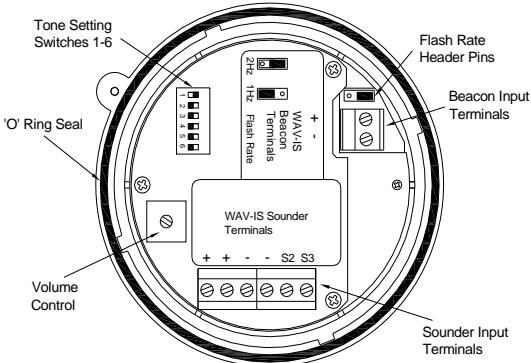

Fig 2 Location of field terminals and controls.
Power is supplied to the sounder section via the sounder input terminals + and - on the sounder PCB (see Fig 2) and the terminals have the following input safety parameters:
Power is supplied to the beacon section via the beacon input terminals + and - on the beacon PCB (see Fig 2) and the terminals have the following input safety parameters:
- Fit the required number of 20mm cable glands or conduit entries into the base and connect the field wiring to the appropriate sounder terminals as shown in section 6 and fig 2 of this manual. The power supply terminals + and - are duplicated so that sounders may be connected in parallel, or an end of line monitoring resistor may be fitted.
- Select the required sounder output tone by positioning the six switches as shown in Table 1 and Fig 2.
- Check that the 'O' ring seal is correctly located on the sounder/beacon section (see Fig. 2) and insert the sounder/beacon section into the base. Push it fully
Tone Selection – To select the required first stage tone set the tone switches 1 to 6 (see Fig 2) to the tone setting shown in the table below. The table also shows which 2nd and 3rd stage tones are available for use with the selected first stage tone if more than one tone output stage is required.